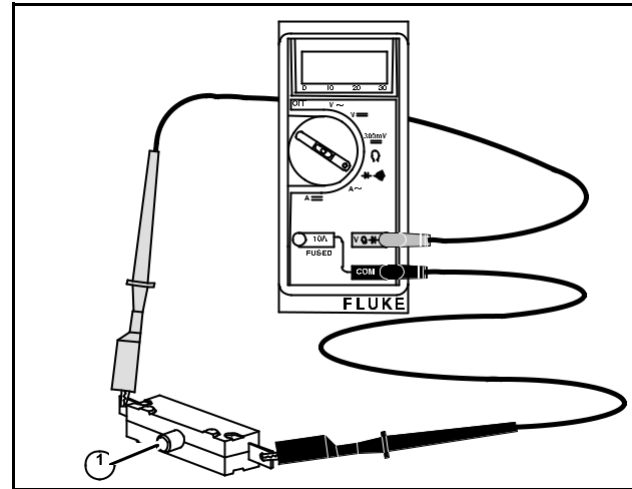

Fig. 27
2. Attach meter test leads to switch terminals, Fig. 27.
4. When button (1) is depressed, the meter should make a continuous tone, indicating continuity. Meter should indicate continuity only when button is depressed.